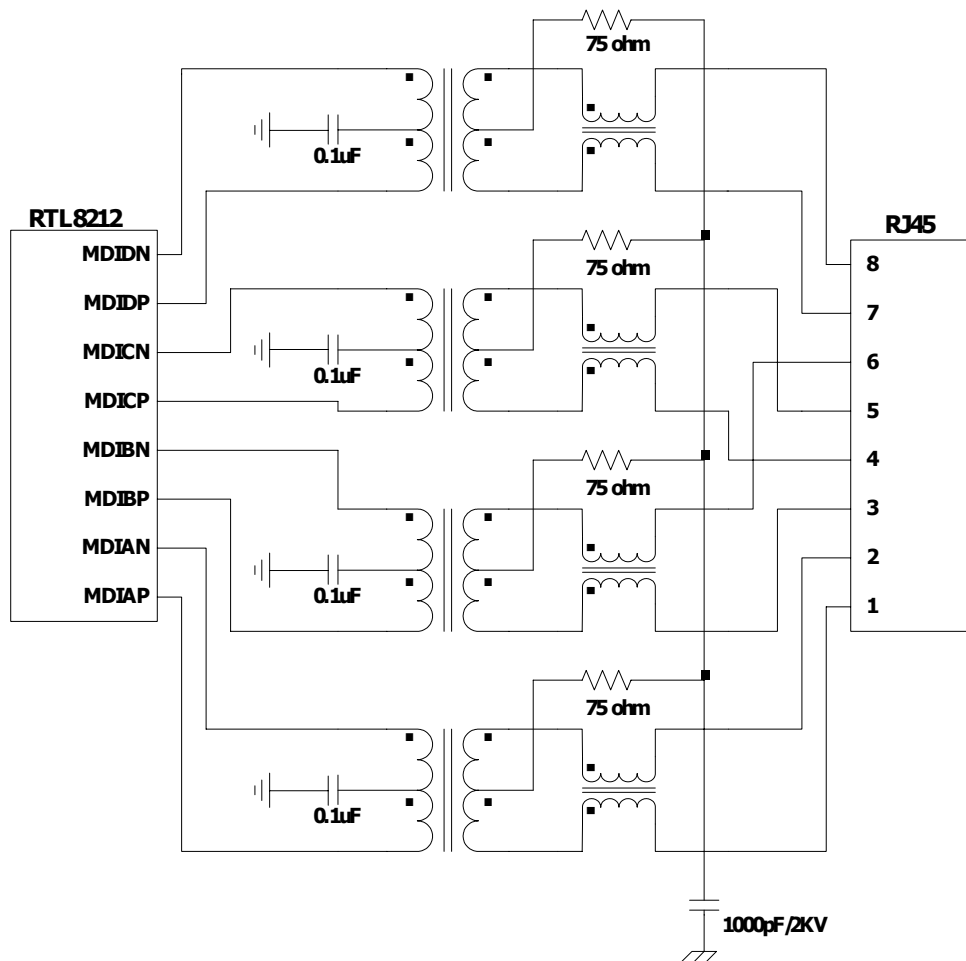

Figure 10. UTP Application Circuit with Transformer
- A 10/100/1000Base-T UTP application circuit with transformer is show in Figure 10.